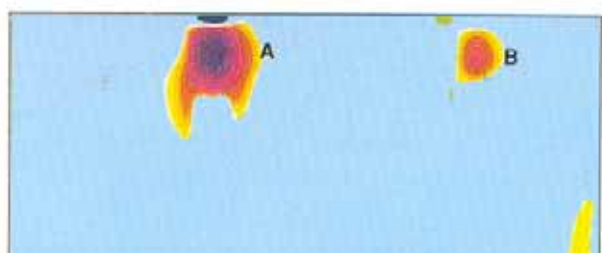

Figure 5. GEOTEM® CHANNEL 7 (OFF-TIME) AMPLITUDE CONTOURS (ppm)
- The "stripping" of the sediment response in the GEOTEM **off-time** (figure 5) reveals the presence of a second GEOTEM target (anomaly B).